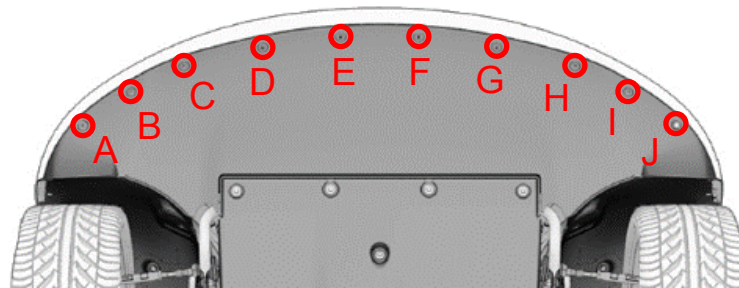

Figure 1 (○ 1128034-00-B)
2. At the front of the vehicle, inspect the valence, and comment in the Cause Narrative field of the Repair Order if the valence is missing, the damage to the valence (if any), and which push rivets (if any) are missing (Figure 1).
3. If the valence is present and undamaged, install any missing push rivets. (Figure 1).